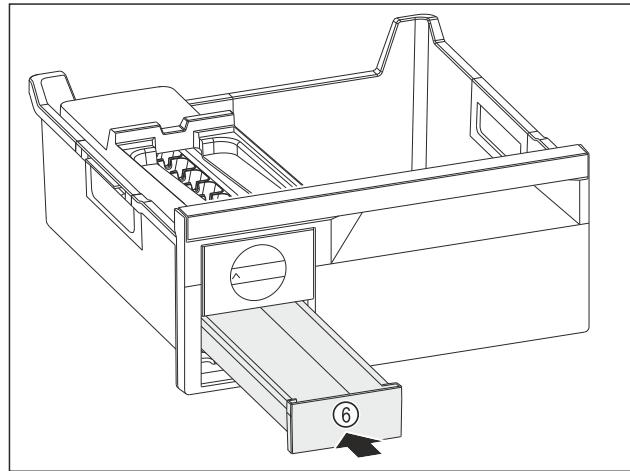

Fig. 170
- Insert the ice cube tray Fig. 170 (6).